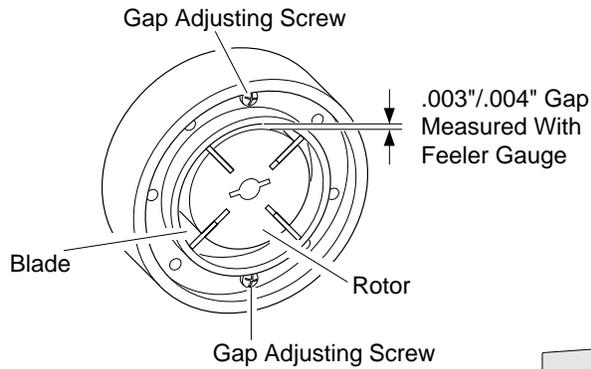

Figure 13 - Gap Adjusting Screw Locations
9. Check gap on rotor. Adjust to .003"/.004" if needed (see Figure 13).